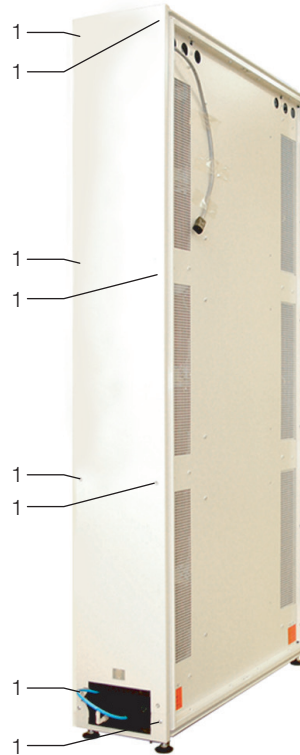

Fig. 4: Liquid Cooling Package (rear)
- Loosen the 8 assembly screws (Fig. 4, Pos. 1) on the rear panel of the Liquid Cooling Package and remove the rear panel.